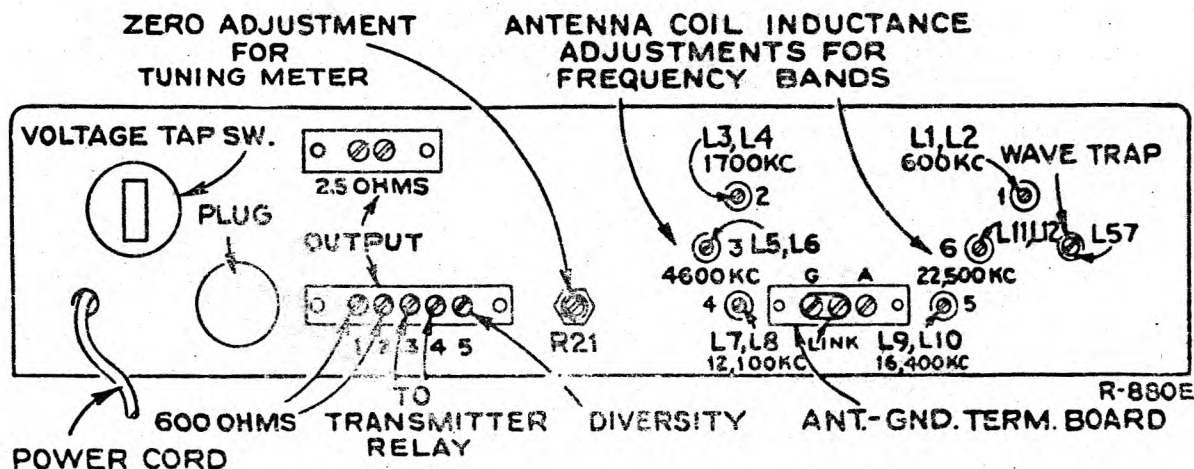

Figure 3—Diagram of Rear of Chassis
The antenna terminal board is provided with three terminals (see Figures 3 and 6), two of which may be joined together with a link. When a single wire antenna is used, the link should be closed and the antenna connected to "A." If a ground is used, it should be connected to "G." If a transmission line or balanced input is used, the link should be opened and the line connected to terminal "A" and the center terminal.
Power Pack—The power pack mounted on the receiver chassis consists of a power transformer, rectifier tube RCA-5Y3GT, and filter. A tap switch is provided on the rear apron for changing the power transformer voltage tap. (See Figures 3 and 6.) The voltage for which the switch is set may be read directly on the switch. The instrument may also be operated from 6V. "A" and 250 to 300 V. "B" batteries, or Vibrator Power Supply Unit MI-8319.
Speaker—Terminals for connection of a loudspeaker are indicated in Figures 3 and 6. The output transformer is designed to match a speaker having 2.25 ohms impedance.
2. Transmit position which gives energized tube filaments, open plate circuits, and shorted terminals for transmitter relay on the speaker terminal board on the back of the chassis. Connect relay to these two terminals for transmitter operation. See Figure 3.
Diversity Reception — Connect together the terminals marked "diversity," Figure 3, on two or three of these receivers, and equip each receiver with a separate antenna. The "diversity" terminal is connected inside the receiver to the AVC circuits. Tune as explained.
detector. It controls the first and second R-F and first and second I-F tubes. The tuning meter is connected in the cathode circuit of the 1st I-F tube and thus records changes in cathode current caused by changes of AVC voltage applied to the grid. The tuning meter should normally give a low scale reading when no signal is being received. To adjust this meter, tune the receiver to a point free of signals, turn the sensitivity control to maximum, switch in AVC, switch crystal "Out," have antenna trimmer turned off resonance, and then adjust the potentiometer R21 at the back of the receiver, as shown in Figure 3, until the meter pointer just coincides with the mark at the low end of the scale. The meter will usually rise slightly when the antenna trimmer is tuned to resonance.